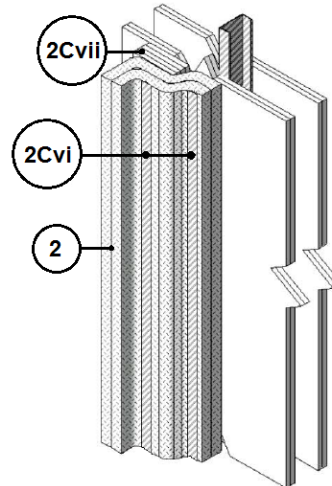

Figure 9. Wall Anchoring
- iv. Insulation Anchors: Floor/Ceiling Application – Use min. 16 GA, min. 1-1/2 in. wide steel sheet strips, and min. 1/4 in. diameter hex-head concrete anchors, spaced to match the longitudinal pin spacing shown in Figure 1. Position the floor/ceiling anchors nominal 4 in. from the outer surface of the duct insulation (Item 2). Extend the duct insulation min. 1-1/2 in. beyond the anchors. Reference Figure 9.
- vi. **Gypsum Anchor Protection Boards:** For installation onto steel stud and gypsum wall, use three layers of 6 in. wide, 5/8 in. Type X gypsum board strips mounted onto the gypsum wall under the duct insulation (Item 2) and adjacent to the wall anchors (Item 2Cvi) as shown in Figure 9. For vertical application, attach the gypsum wall anchor boards with #10 drywall Type G laminating screws spaced 24 in. oc. For horizontal application, attach the gypsum anchor boards with #10 drywall Type S screws into steel studs. Secure the insulation blanket (Item 2) to the gypsum wall anchor board using wall anchors (Item 2Cvi) consisting of min. 16 GA, min. 1-1/2 in. wide steel sheet strips and #10 drywall Type G laminating screws spaced to match the longitudinal pin spacing shown in Figure 1.